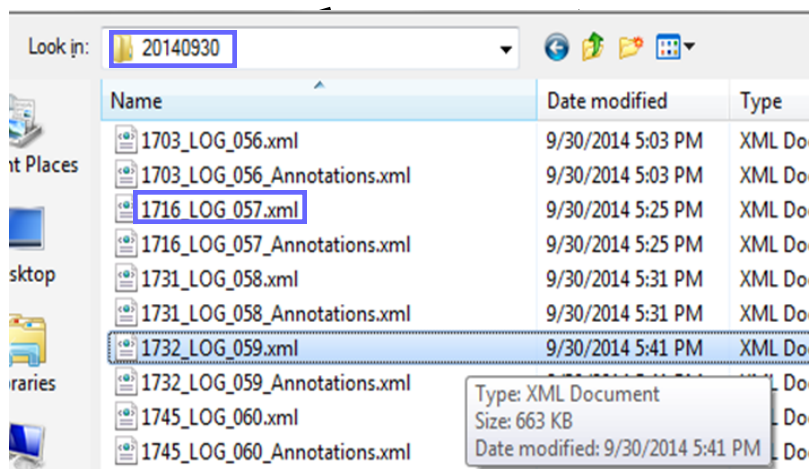

Figure 4.7-3: Data files named and stored by Ellvin.
16. The folder contains a list of files. The file names are derived from the *time* Ellvin converted the data. In the example in Figure 4.7-3, the file named “1716” was converted at 5:16 PM on 9/30/2014.